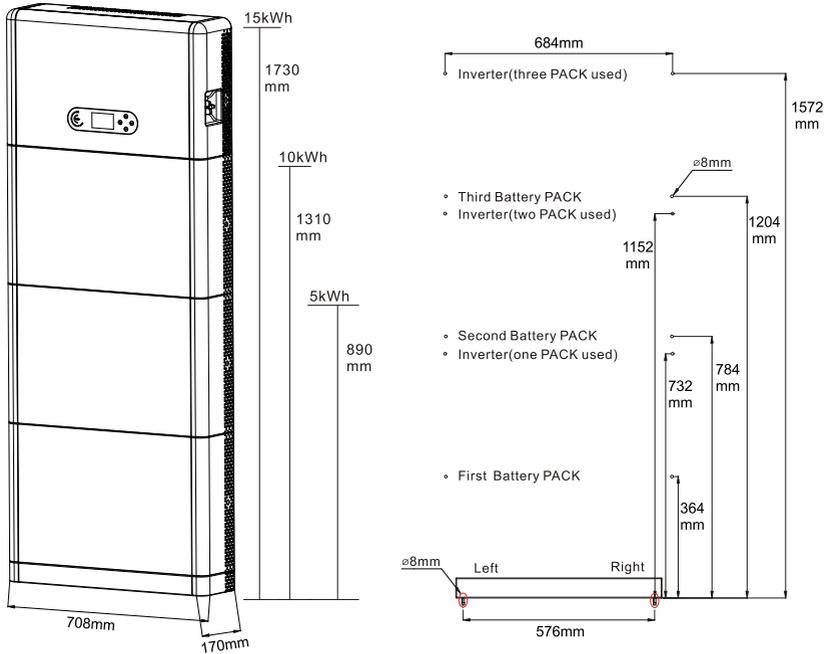

Figure 3.5-1 ESI series installation dimensions diagram
3) Use a marker to mark holes for securing the battery modules and inverters based on the dimensions shown in Figure 3.5-1.